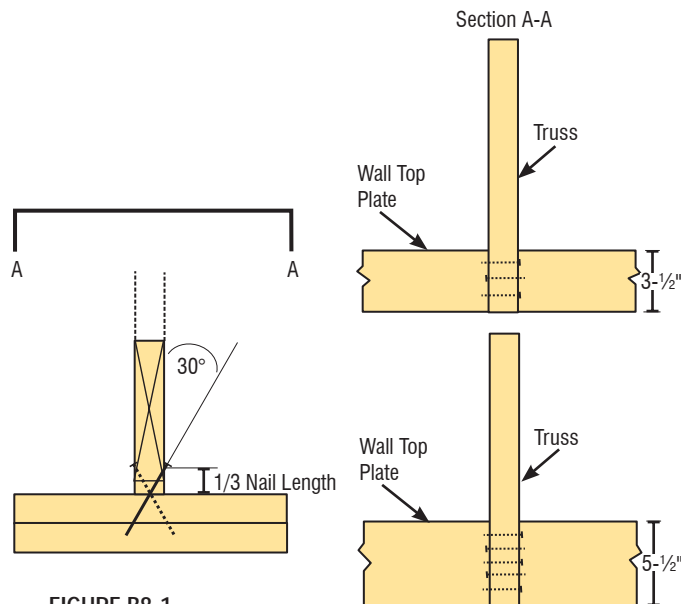

FIGURE B8-1
To get the most out of a toe-nailed connection, it is important to toe-nail correctly. Figure B8-1 illustrates proper toe-nailing of a truss to the wood top plates of a bearing wall. The dimensions shown are only meant to serve as an approximate guide. Toe-nailing through a metal connector plate of a truss does not adversely affect the uplift capacity of the Connection provided the truss plate and lumber are not damaged during installation.
- ✔ When installing toe-nails, use care to avoid splitting the wood. The Building Designer typically provides nail spacing and minimum end and edge distances. In lieu of such guidance, a well accepted rule is to limit the total number of toe-nails to three (total, including both sides) for full bearing on a 2x4 top plate (i.e., 3-1/2") and five (total, including both sides) for full bearing on a 2x6 top plate (i.e., 5-1/2") (see Figure B8-1). When using toe-nails to attach the top or bottom chord of a truss to the side of a Girder Truss or wood beam, the number of nails used is generally limited to a maximum of three toe-nails for 2x4 chords and four toe-nails for 2x6 chords.
Table B8-1 provides the uplift and lateral load capacities of toe-nailed connections consisting of three, four or five nails for various types of nails and species of wood. The table assumes the nails are installed a distance of either L/3 (i.e., length of nail divided by 3) or 1-1/8" from the top surface of the plate (support) (Figure B8-1, page 63). The values listed are for normal load duration and are permitted to be multiplied by the load duration factor (Table B8-2, page 66) appropriate for the specific application.